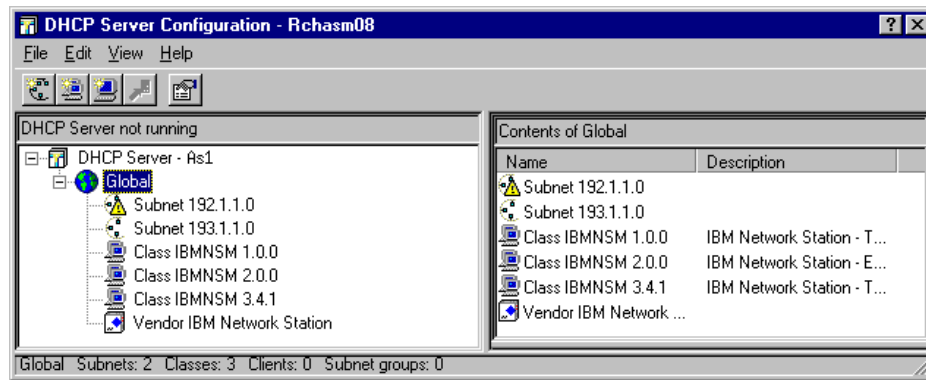

Figure 70. AS/400 Operations Navigator - DHCP Configuration
6. Double-click **DHCP**. This shows the DHCP Server Configuration display (see Figure 70 on page 160). Ensure that *Global* is highlighted.